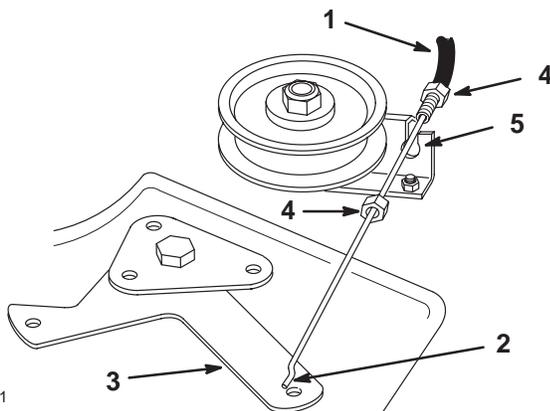

Figure 38
- Unhook the blade control (PTO) cable Z end from the idler arm on the mower (Fig. 38).
- Remove the rubber wiper and jam nut from the blade control (PTO) cable at the mounting bracket. Slide the cable from the bracket (Fig. 38).